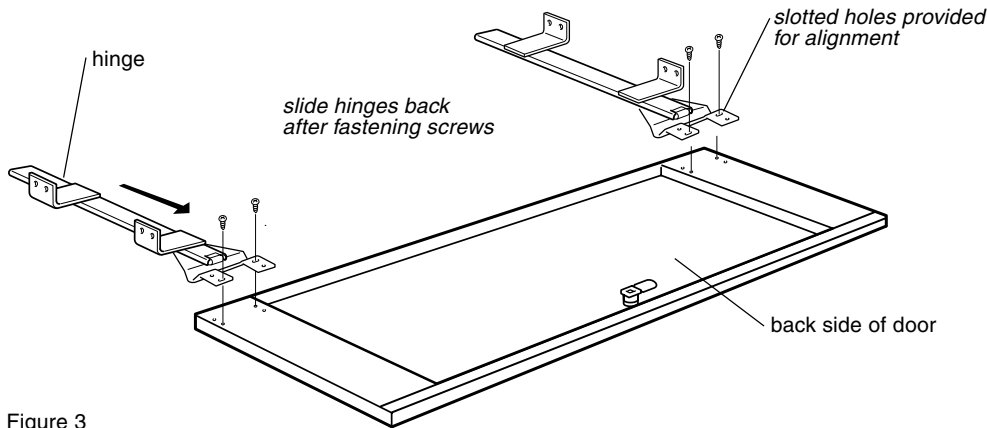

Figure 3
5. Lay door upside down on flat surface. With slide flanges facing outward align hinged end of slide with rear holes in cabinet door. Fasten each slide to door with two (2) #8-32 phillips screws using the slotted holes in hinge flange, finger tighten only. Slide hinges back on door. (Figure 3)